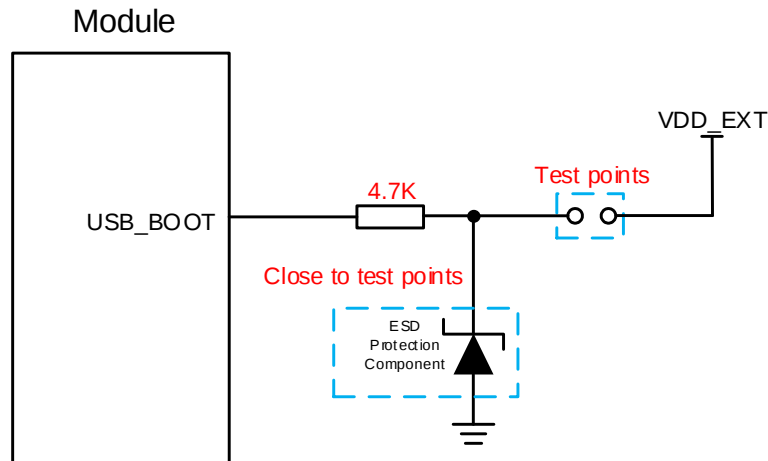

Figure 28: Reference Design of USB_BOOT Interface
2. When using MCU to control module to enter the emergency download mode, please follow the above timing sequence. It is not recommended to pull up USB_BOOT to 1.8 V before powering up VBAT. Directly connect the test points as shown in **Figure 28** can manually force the module to enter download mode.